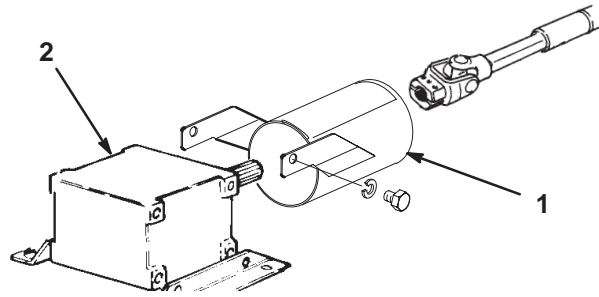

Figure 6
1. Remove the 2 capscrews and lock washers securing the PTO guard mounting brackets to the gearbox (Fig. 6). Retain the fasteners for future installation.
2. Slide the PTO shaft guard onto the PTO shaft, positioning the guard as shown in Figure 6.